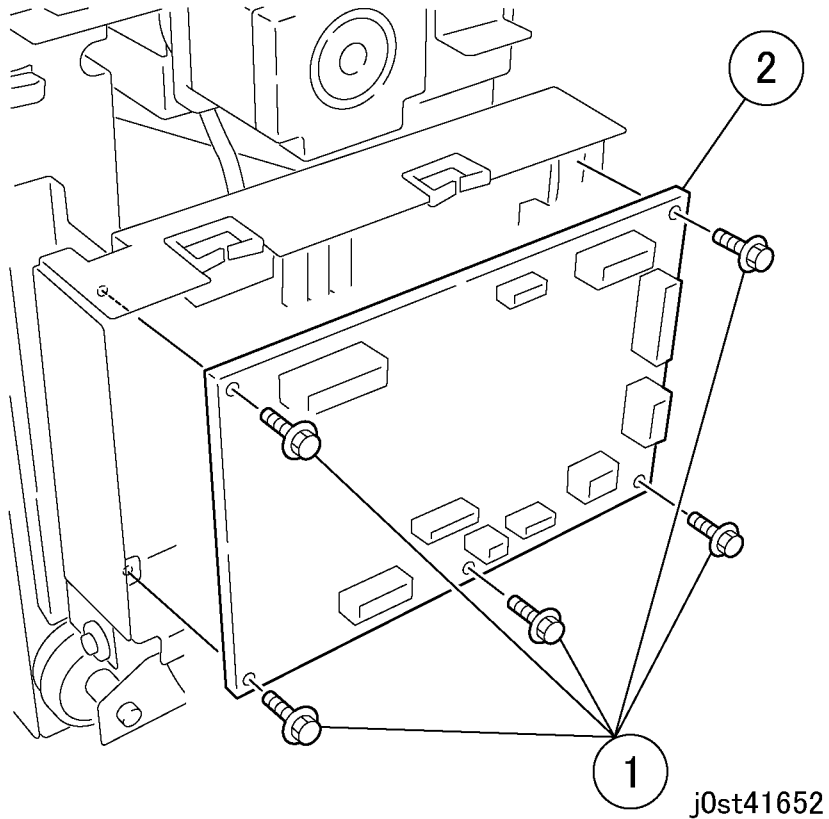

Figure 2 Removing the Finisher PWB
3. Remove the Finisher PWB. (Figure 2)
NOTE: When installing, keep the core shown in Figure 2 inside the box.